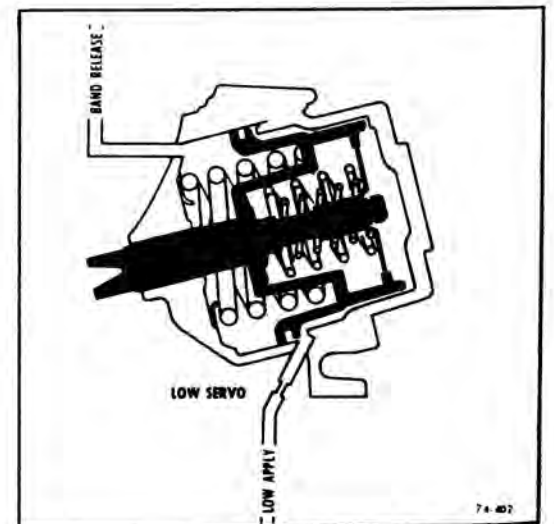

Figure 74-18—Low Servo
j. Low Servo (See Figure 74-18)